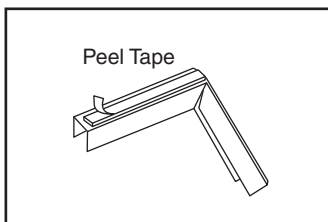

FIG. 1
- 1. Mount Support Bracket-** First clean shower walls of any dirt or debris with standard isopropyl alcohol where the corner shelf will be mounted. Install the shelf support bracket by peeling off the paper tape backing exposing the adhesive tape on the flexible corner mount and pressing into shower corner, keeping the front edge approximately 1/16" below level. This will provide a slight downward angle for water to drain. (**Fig. 1 & 2**)